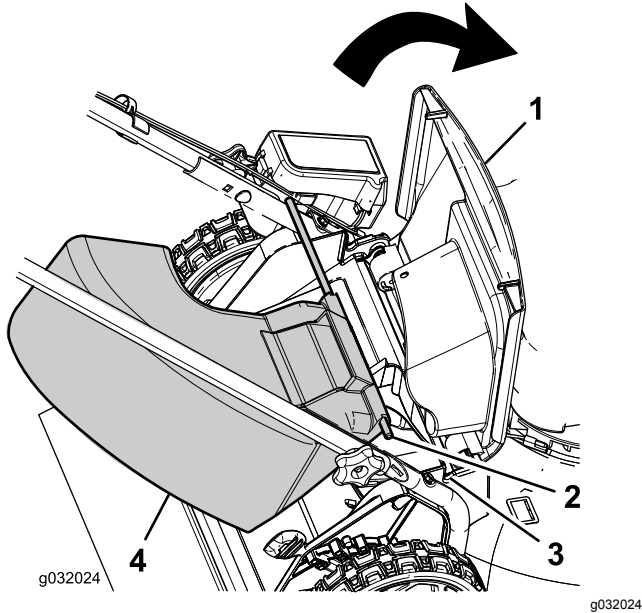

Figure 21
1. Lift up the rear deflector (Figure 21).
2. Insert the rod ends of the side-discharge chute into the notches on the handle brackets (Figure 21).